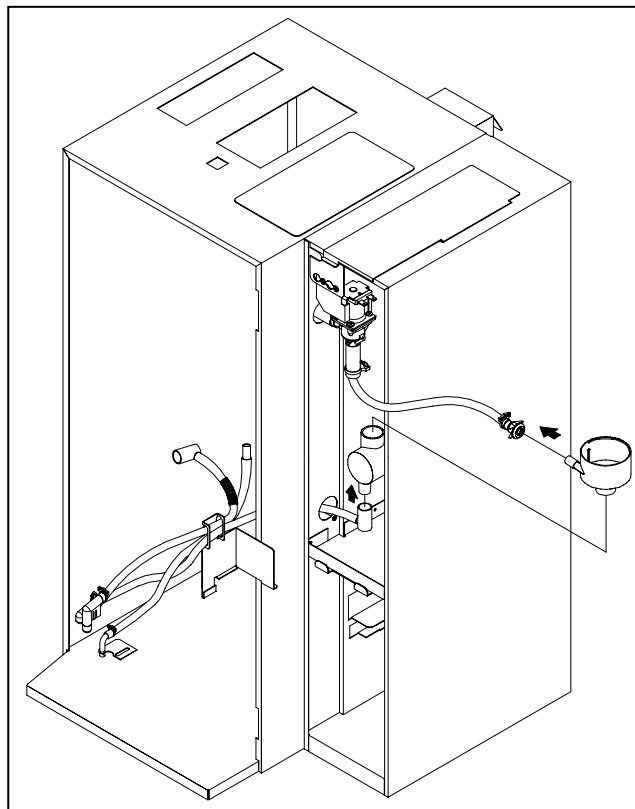

Figure 7 - Connect the hoses inside the A.P.P. (door has been removed from illustration to simplify identification of parts).
7. Connect the new powder product hoses to the whipper assembly inside the A.P.P. (figure 7).